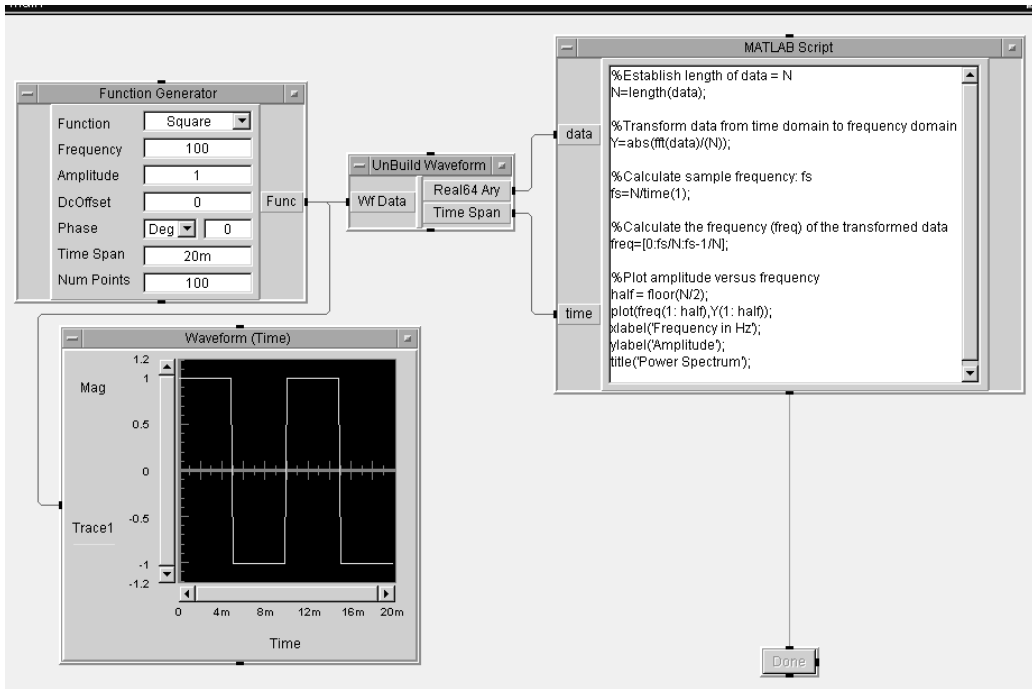

Figure 13.10. Lab 13.5 before running
12. Select Menu Bar => Flow ==> Confirm (OK); place it below MATLAB Script; change its name to “Done”. See Figure 13.10.